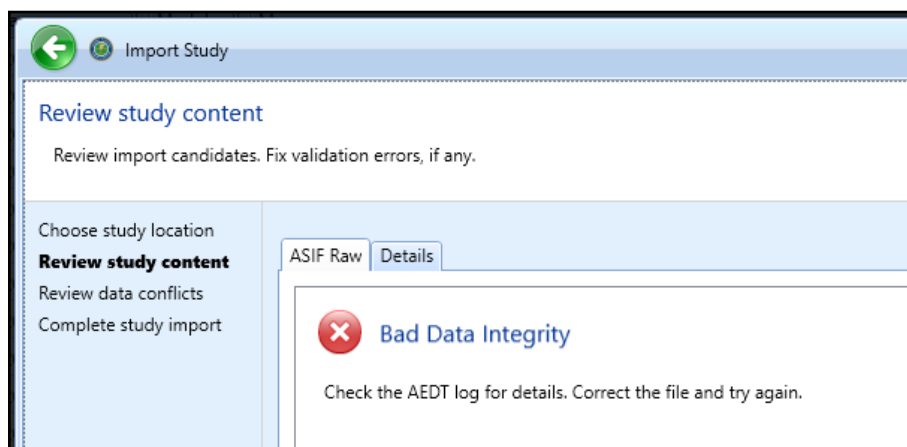

Figure 42. Review study content, Bad data integrity error
- If the “Bad Data Integrity” message appears, click *Cancel* (Figure 42). This message indicates errors in validating the XML file based on the EDMS study data. *Please refer to Section 4.4.1 for guidance on how to resolve these data errors.*